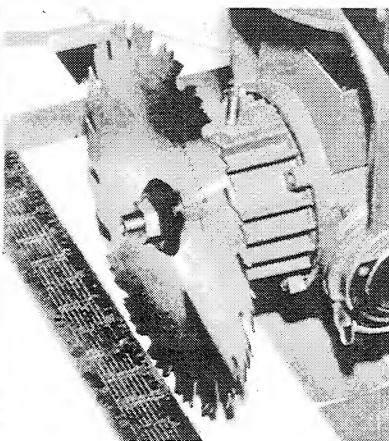

Figure 14
9. ADJUSTING CROSS CUT TRAVEL WITH GUIDE FENCE (figures 14 and 15)